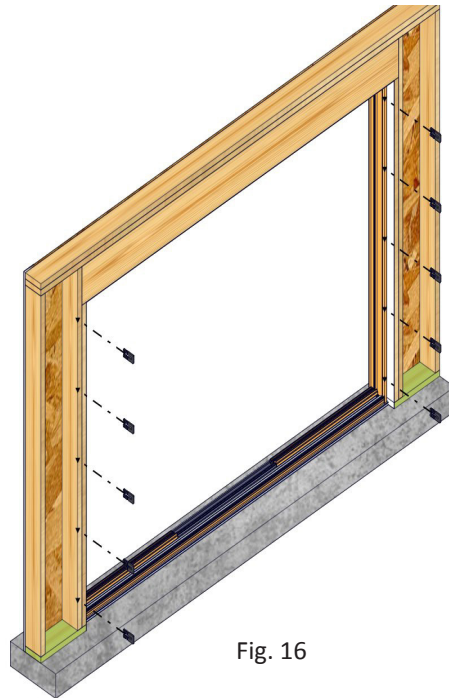

Fig. 16
4. Once square install additional shims at 16" intervals on center and at each lock point. (Fig. 16)